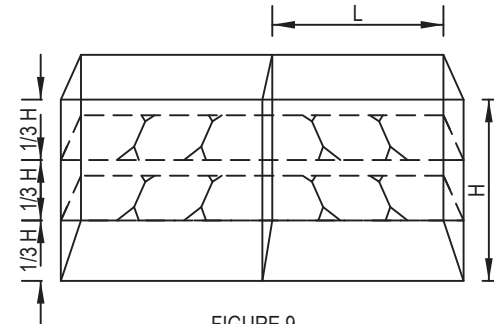

FIGURE 9
2. FILL EACH GABION CELL TO 1/3 H. INSTALL BRACING WIRES AT THIS HEIGHT (FIGURE 9) A MINIMUM OF FOUR BRACING WIRES PER SQUARE METRE OF GABION FRONT FACE SHOULD BE USED. BRACE EACH GABION OF THE UNIT BEFORE PROCEEDING TO FILL THE GABIONS FURTHER.